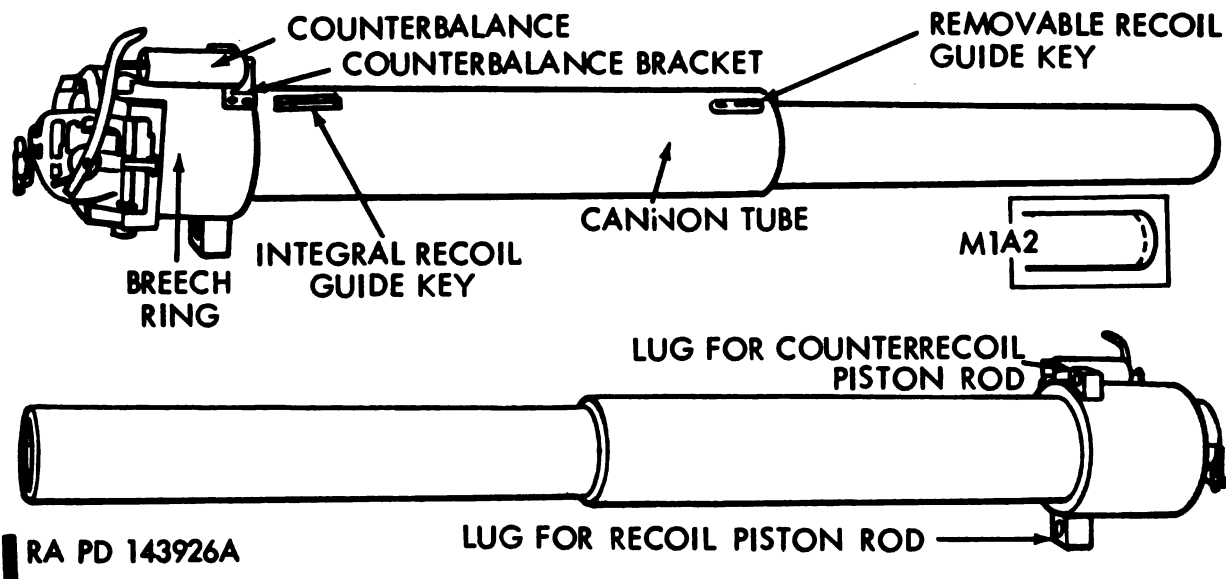

Figure 99. 155-mm cannon.
a. The 155-mm cannon (fig. 99) consists of the breech ring, the breechblock, breech mechanism, and barrel. The barrel is an alloy steel tube screwed into the front of the breech ring and locked into position with a locking screw.
c. An integral recoil guide key (fig. 99) and similarly shaped removable recoil guide key maintain the alinement of the cannon tube in the recoil mechanism.
a. *Counterbalance.* The counterbalance (figs. 99 and 100) facilitates closing the breech when the cannon is elevated, under which condition gravity opposes the swinging of the breechblock into the
**d. Firing Mechanism Housing Adapter.** The firing mechanism housing adapter (fig. 99) fits into the rear end of the bore of the breechblock carrier and into the rear of the breechblock. It has a rectangular lower arm which supports the percussion hammer. The adapter is retained in the carrier by the firing mechanism housing, which fits the interior of the adapter and screws onto the rear end of the obturator spindle. The firing mechanism screws into the firing mechanism housing, during firing of the howitzer (para 48b).
*k. Breech Ring.* The exterior of the cannon breech ring (fig. 104) is cylindrical in form. At the front end are lugs on the top and bottom for attachment of the cannon to the counterrecoil and recoil piston rods (fig. 99). At the rear on the right side is the lug for the breechblock carrier hinge pin. The counterbalance bracket is attached by four screws to the upper right side of the breech ring near the forward end. The breechblock rotating cam is attached to the upper left rear face of the breech ring. The forward portion of the breech ring is threaded internally to receive the cannon tube. The rear portion of the bore forms the breech recess and is divided into nine stepped and threaded sectors to correspond with the exterior of the breechblock.